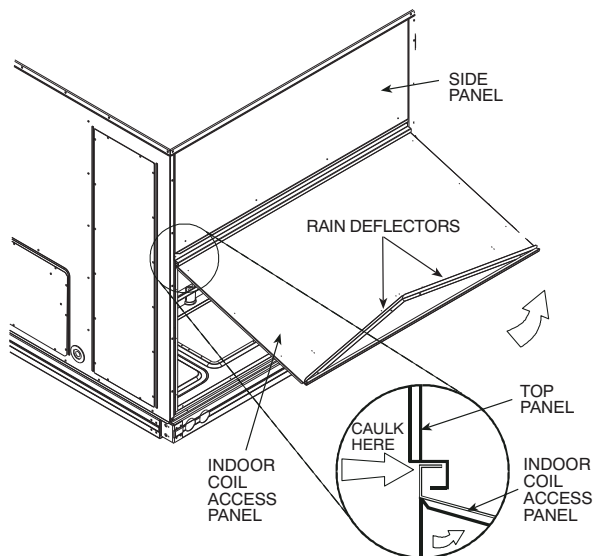

Fig. 16 — Indoor Coil Access Panel Relocation
1. The indoor coil access panel will be used as the top of the hood. If the panel is still attached to the unit, remove the screws along the sides and bottom of the panel. See Fig. 16.
7. Install the two rain deflectors on the edge of the hood top as shown in Fig. 16.
8. Caulk the ends of the joint between the unit top panel and the hood top as shown in Fig. 16.